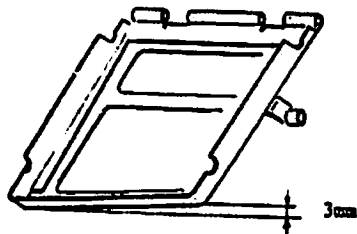
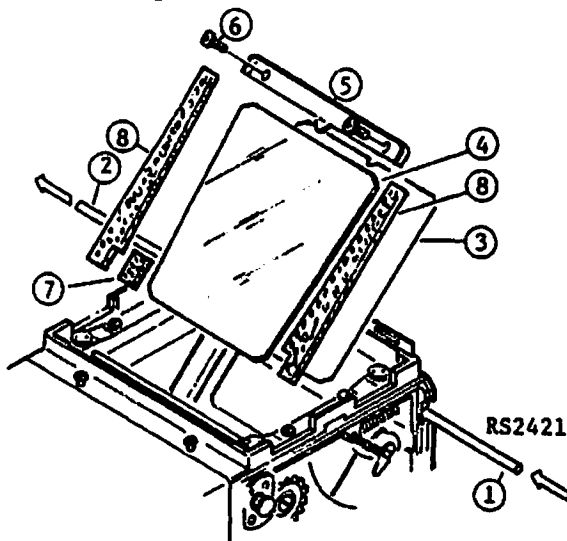

Fig. 40
Fig. 42
- (1) Fill up gap of rivetted Light baffle plate by glue (DB. Bond), and paint mat lacquer.
- (2) The upper end of the mirror curtain is placed to set 3 raised marks.
(3) In order to keep the parallel of Mirror holder, the left side of the Mirror holder is bent about 3mm as shown in Fig. 40.
(4) Assemble in the reverse order of disassembly.
(5) Replace shaft (RS2421).
(6) Attach Mirror in the order of the numerals in a circle as shown in Fig. 42.
(7) Mirror holder shall touch Stopper of both sides of the body.